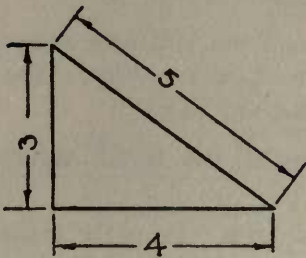

Fig. 13.
- (7) Draw a triangle (Fig. 13) with sides in the ratio of 3, 4, and 5 and note that one of the angles is a right angle. Why?